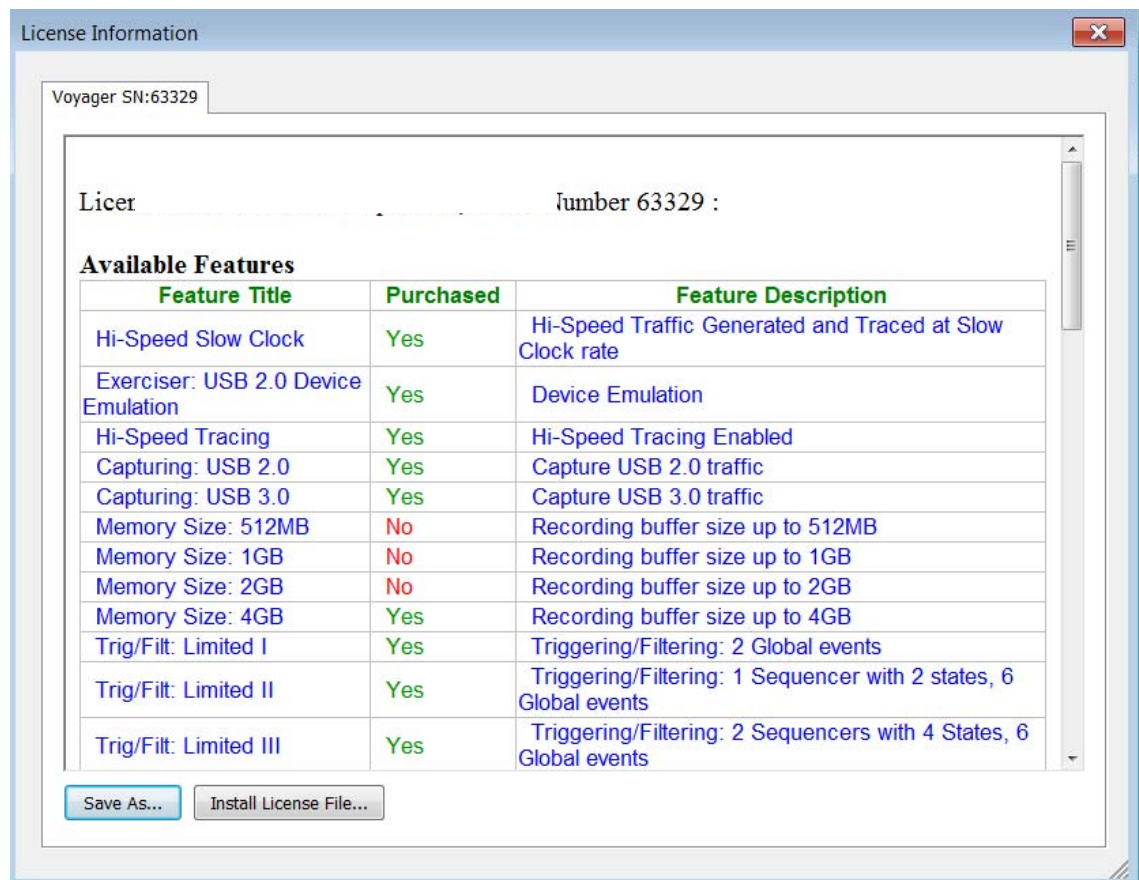

Figure 13.7: License Information Dialog
1. From the Help menu, select **Display License Information** to display the License Information Dialog (see Figure 13.7 on page 394).